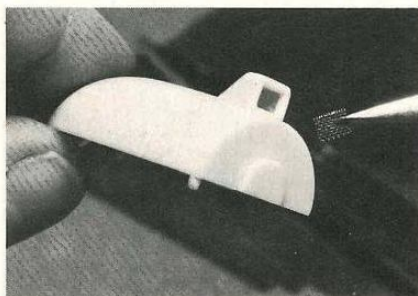

Fig. 8. After opening up the carburetor intake and before joining the nacelle halves, Roscoe inserted a piece of fine-mesh brass screen.
**Nacelle, engine, and propeller.** Before cementing together the engine nacelle halves, I filed out the solid molded carburetor intake and installed a piece of Kemtron fine-mesh brass wire screen, Fig. 8.\*